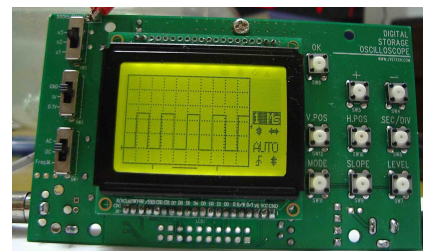

Fig. 3
- 2) Connect the red clip to the test signal terminal located at top-left corner of the panel, as shown in Fig. 3.
- 5) Press [ V.POS ] button, adjust 0V indicator to the second to last vertical scale as shown in Fig. 3.
- 7) Set Y sensitivity switch 2 (top switch) to X2 position. Waveform similar to that shown in Fig. 3 should be seen.